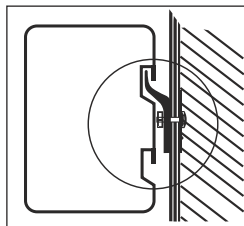

Fig. 7
1. After you have chosen a proper place to install the water heater determine points for holes for fixing of mounting strip, putting the strip to a wall. Drill holes of corresponding depth in the wall using a drill dimensionally fit for anchor bolts delivered together with the water heater. Next, fix the mounting strip on a wall with help of screws. After that you should mount water heater on a mounting strip (fig. 7).